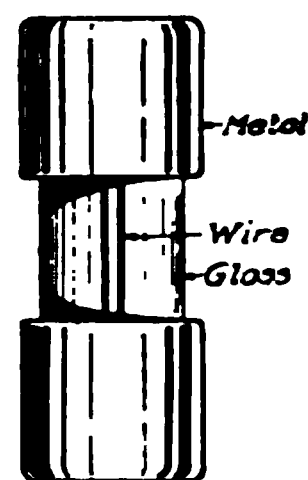

Fig. 211. Typical Fuse
**Fuses.** The lighting circuits of many cars are provided with fuses, designed to protect the battery. These fuses are usually of the enclosed type, consisting of a glass tube with brass caps at each end to which the fusible wire is connected, as shown in Fig. 211. Usually when a fuse "blows", due to excessive current caused by a ground or "short", the wire melts entirely and this will be visible. But at times it will simply melt at the soldered connection and not show any fault.